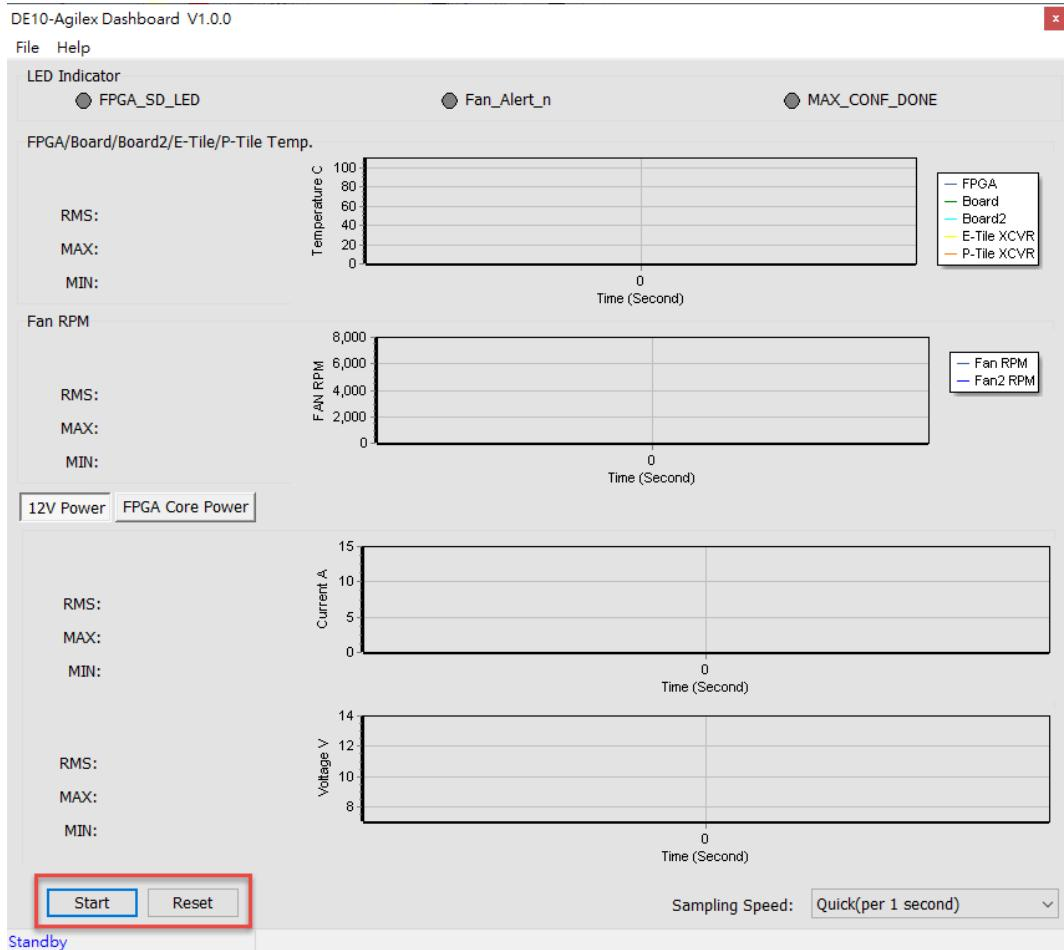

Figure 10-7 Start and Reset button
- **Start/Stop:** As shown in **Figure 10-7**, there is a Start button at the bottom-left of the GUI window. Click it to run the program (Start will change to Stop), it will show the DE10-Agilex board status. Users can press Stop button to stop the status data transmission and display.